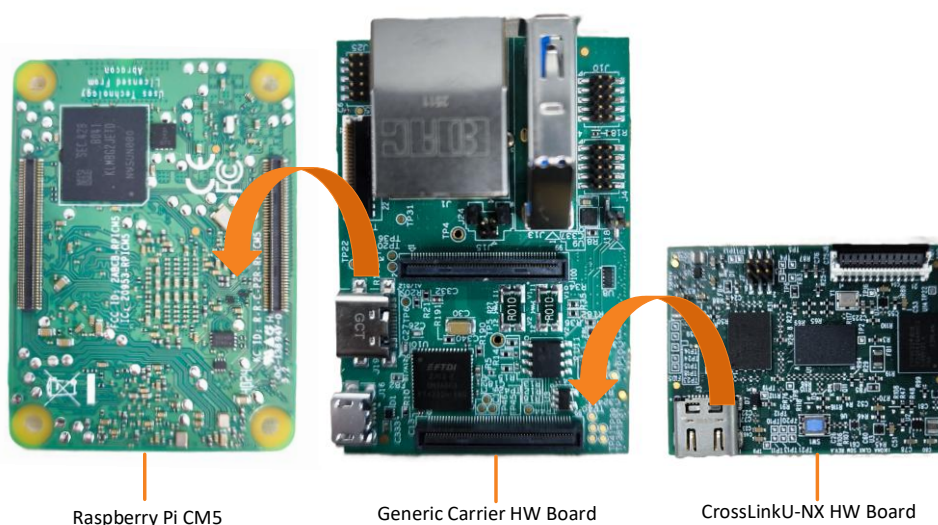

Figure 5.9. Stacking Orientation Arrangement
Figure 5.9 shows the physical stacking and orientation of the three main hardware boards used in the CrossLinkU-NX SoM HMI demonstration design.
1. From the right side of Figure 5.9, mount the **CrossLinkU-NX SoM HW board** onto the **Generic Carrier HW board** using the designated board-to-board connectors.
All boards must be stacked vertically without changing orientation as depicted in Figure 5.9, ensuring that all board-to-board connectors are fully engaged to provide secure electrical and mechanical integration.